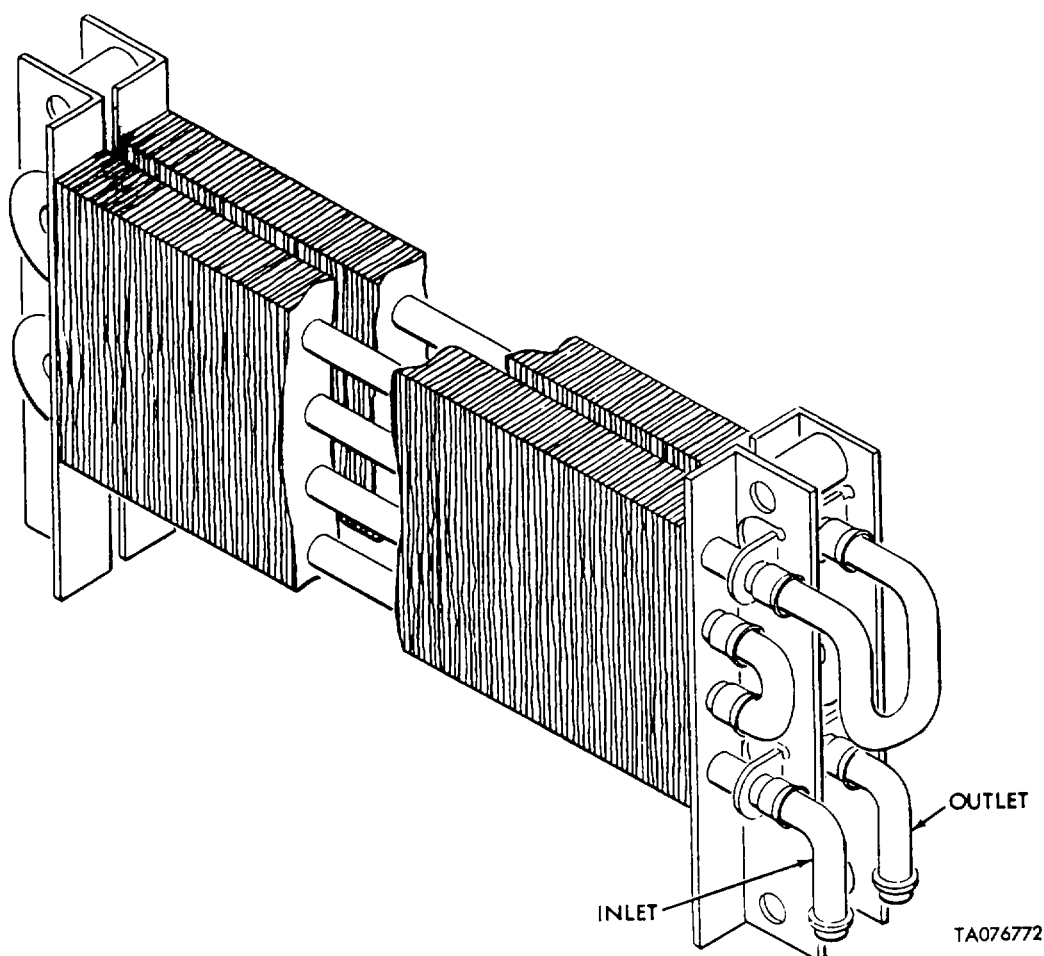

Figure 4-2. Transmission Oil Cooler
- (6) Disconnect lines from oil cooler. Note which one is the inlet line (fig. 4-2).